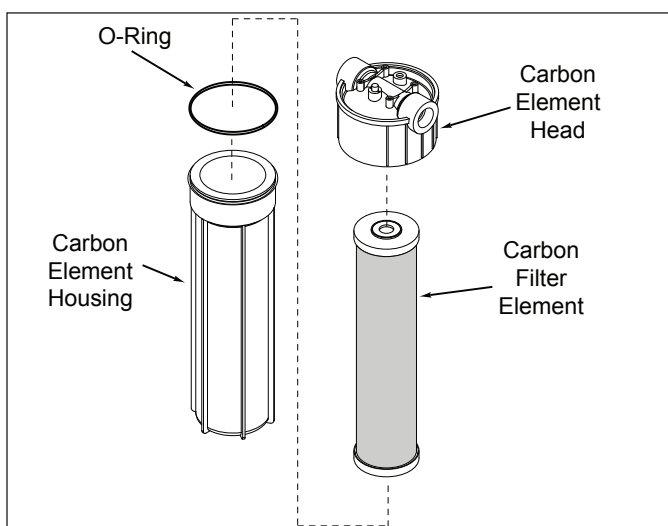

Figure 9. Replacing the TAP Carbon Element
3. When the **03** program completes, remove the bottom Carbon Element Housing. Empty any water into a drain and discard the old Carbon Element. See Figure 9.